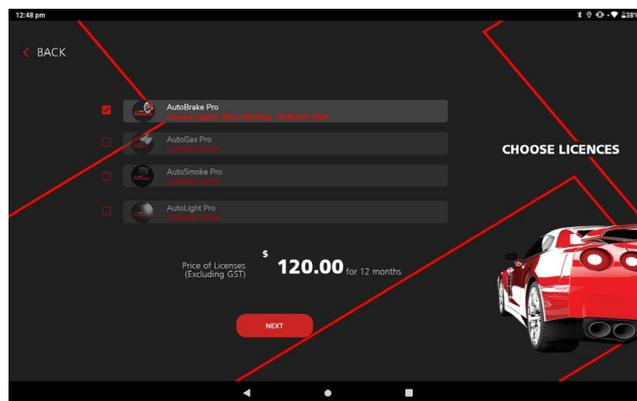

Figure 17
Step 3: Choose the License (AutoBrake Pro). It will display the price of the License = \$120 for 12 Months. (Figure 17)